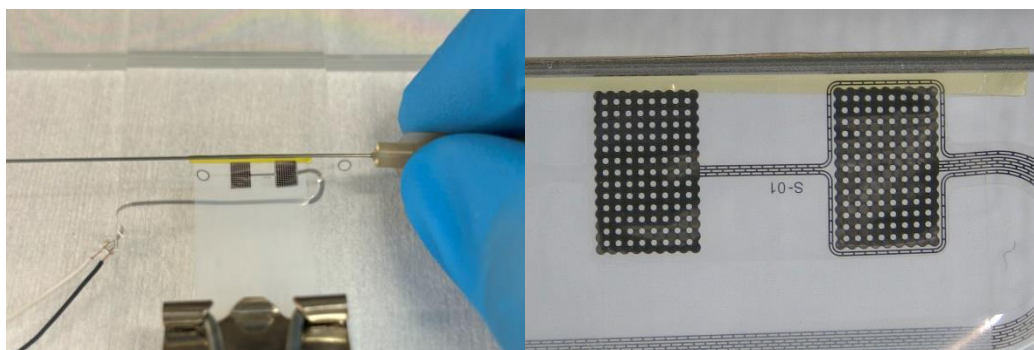

Figure 5-3: Alignment of the device on the thermoforming fixture, with (right) magnified view.
5. Align the Parylene electrode such that the center bridge is parallel to the mandrel, the top edge of the electrodes is touching the mandrel, and the tail is extended over the edge of the Teflon film (see Figure 5-3)